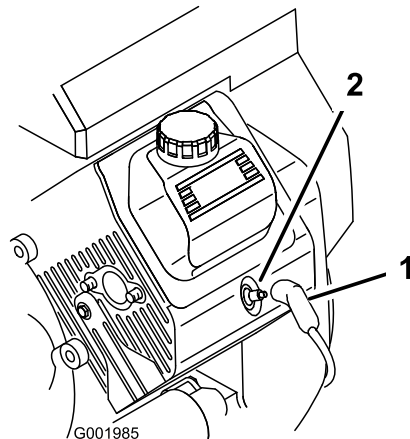

Figure 51
3. Pull the wires off the spark plugs (Figure 51).
3. Push the wires onto the spark plugs (Figure 51).